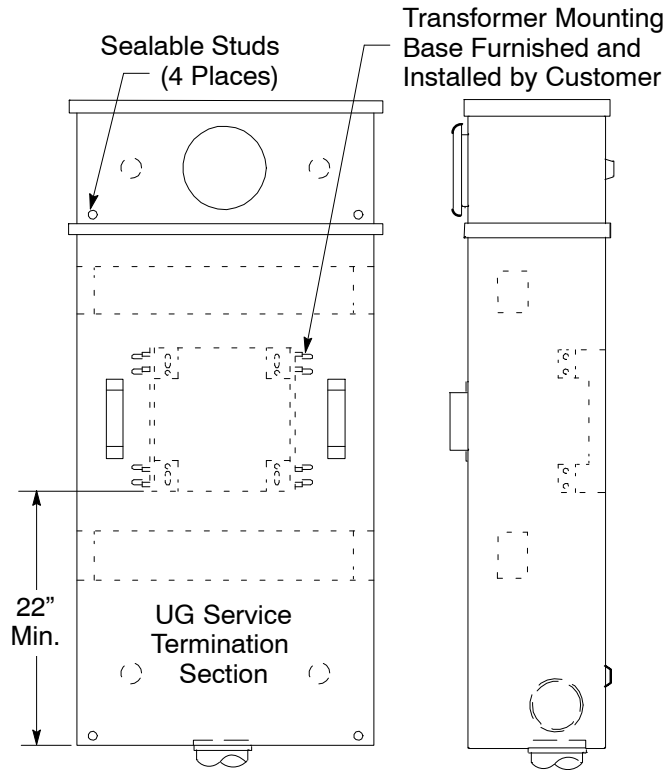

Figure 6
- (2) Combination service pull section, meter, and CT mounting enclosure, 201 through 400 amp, for single-phase service (see Figure 6 on Page 7).